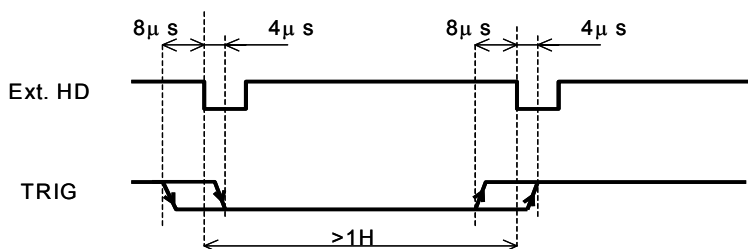
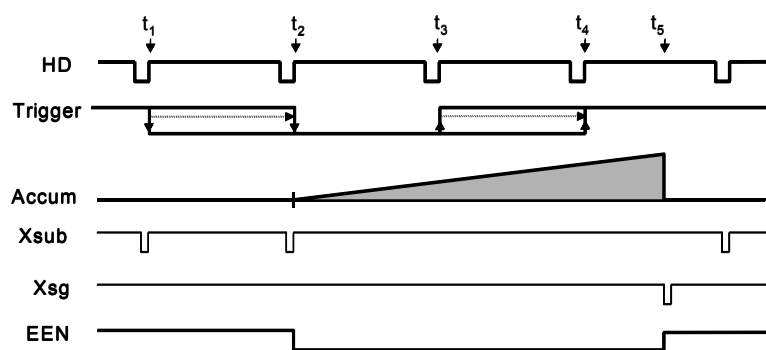
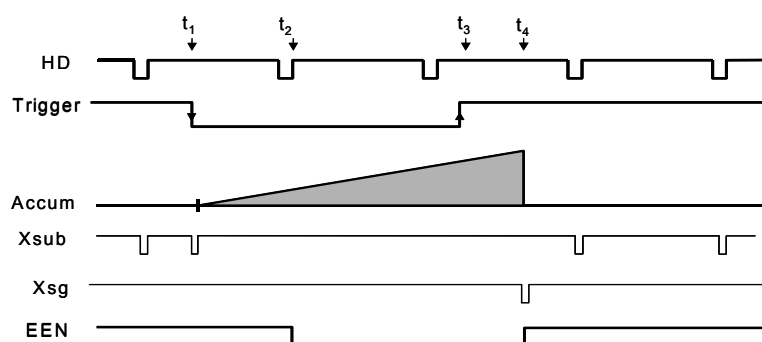

Fig. 17. Trigger/HD Timing.
Fig.18. Pulse Width H Synchronous Accumulation
Fig. 19. Pulse Width H Asynchronous Accumulation.
The default accumulation is HD synchronously accumulation (HC=0). The accumulation starts at the first HD after the trigger leading edge. Fig. 18. To avoid the $<1H$ jitter caused by this delay, synchronize the external trigger to HD as shown in fig. 17 below. The trigger level translations should be placed inside the $8 + 4 \mu\text{s}$.
In PWC mode (TR =2) and Frame Delay readout (TR=3), the accumulation mode **HC** can be set to asynchronous accumulation (HC=1). The exposure will start immediately at the leading edge of the trigger pulse without waiting for the HD. Fig. 19.
- The start of exposure will start synchronized to the internal H signal. The start may be shifted max 1H. To avoid this shift (1 H jitter), synchronize the camera to an external HD and make sure that the trigger pulse aligns to the HD as shown in fig. 17.
- With HC=0 the start of exposure will start synchronized to the internal H signal, the start of exposure may be shifted max 1H. To avoid this shift (jitter), synchronize the camera to an external HD and make sure that the trigger pulse aligns to the HD as shown in fig. 17.
- With HC=1 the exposure will start immediately. Refer to fig. 18 and fig. 19.